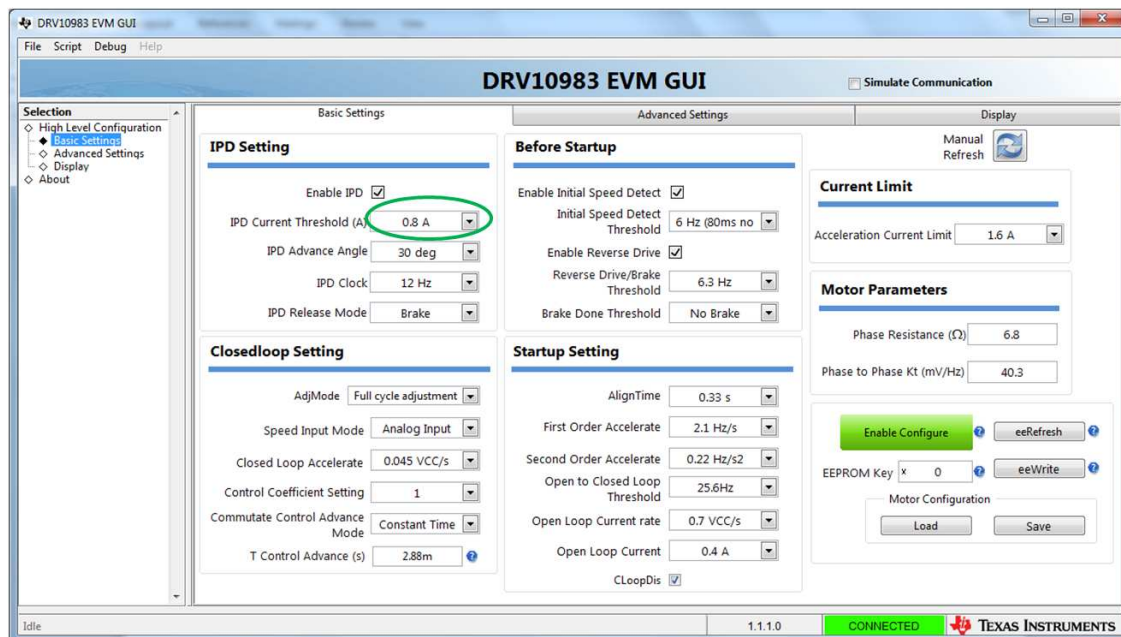

Figure 29. DRV10983x/75 EVM GUI Screenshot
6. Unlock motor and turn ON motor commutation. When motor was going through IPD process during initial startup, visually there was little vibration, so IPD current threshold is reduce to 0.8 A (see Figure 29).